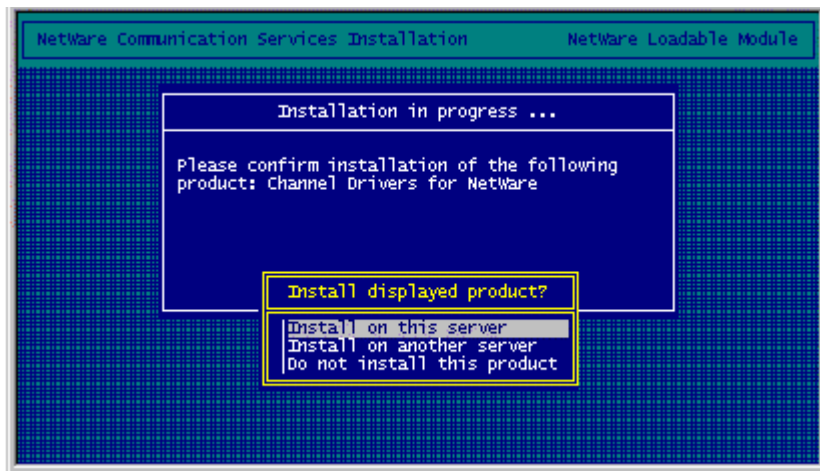

Figure 3-24. Installation Confirmation
6. A window (Figure 3-24) will appear asking for installation confirmation. Several installation options will be presented. The option to install on the current server will be highlighted. Press the **ENTER** key to accept the option to **"Install on this server"**.
6. A window (Figure 3-24) will appear asking for installation confirmation. Several installation options will be presented. The option to install on the current server will be highlighted. Press the **ENTER** key to accept the option to "Install on this server".